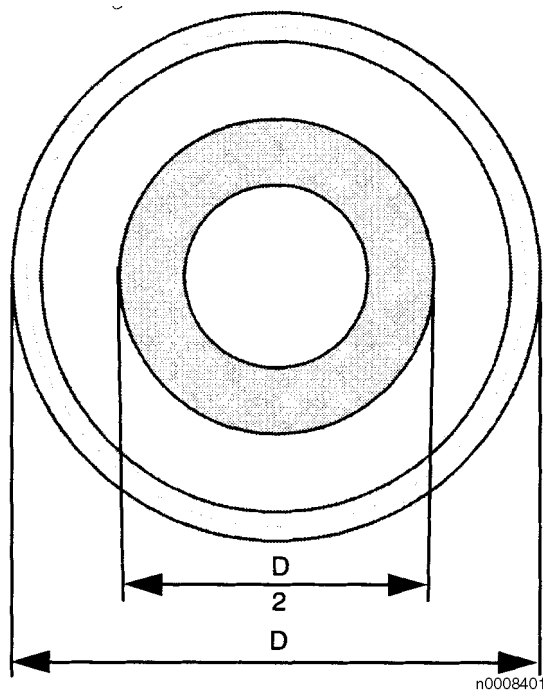

Figure 1
- b. **Gas flame**Concentrate the heating to a circular area around the hub corresponding to about half of the gear wheel diameter, see Fig. 1. If the heat around the hub is to result in an increase in the diameter of the hole, some heat has to be added to the outer edge of the gear wheel. This has to be done with care so as not to damage the hardening of the gear teeth. Proceed with the heating of the gear wheel until the shrinkage gauge can be easily inserted in the hub.